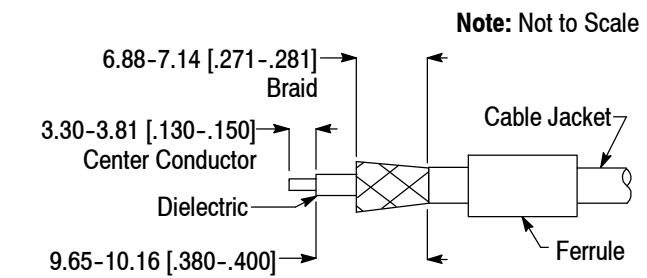

Figure 2
2. Strip the cable to the dimensions shown in Figure 2. Take care not to nick any part of the cable. Flare the braid.